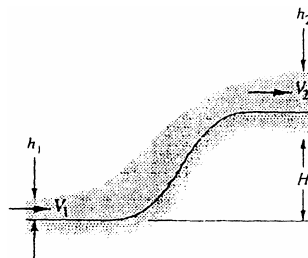

Fig. P3.178
3.178 For the water channel flow of Fig. P3.178, $h_1 = 0.45$ ft, $H = 2.2$ ft, and $V_1 = 16$ ft/s. Neglecting losses and assuming uniform flow at sections 1 and 2, find the downstream depth h_2 . Show that *two* realistic solutions are possible.